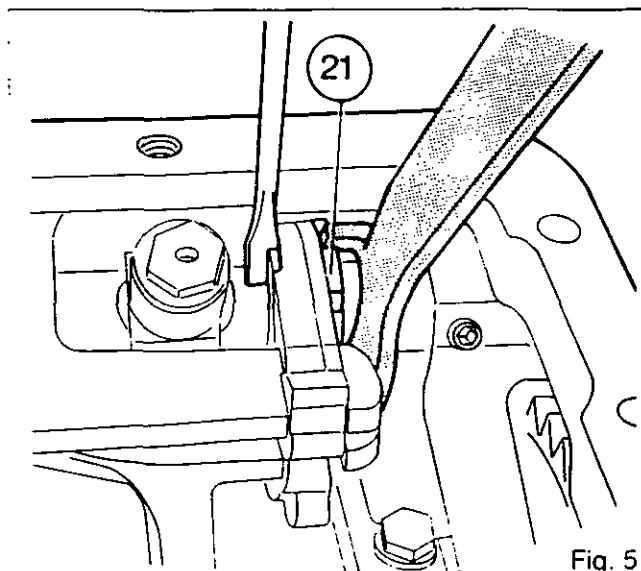

Fig. 5
5. Slacken off lock ring (21) with spanner 3615334 M01 (Fig.5).